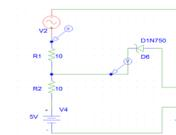

Fig.3: Shifter & Limiter circuit
- Designing a limiter and shifter circuits at the range of 0 to 5-V RMS. See fig.3